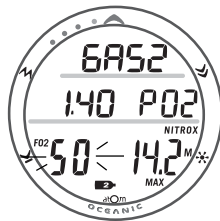

Fig. 44 - SET FO2 GAS2
- The scroll will start at the FO2 GAS 1 Set Point and stop when the button is released, or momentarily at 50% (Fig. 44), then 80% (even if the button is held depressed).